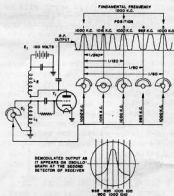

Figure 2.5 - Frequency Modulation
A. An illustration of the generation of frequency modulation is shown in Figure 2.5. The main characteristic of a frequency modulated signal is that the frequency is constantly changing while the output voltage remains constant. Starting at the fundamental frequency, the frequency gradually increases to its maximum, decreases through the fundamental to its minimum and then returns to the fundamental frequency, completing the cycle. The maximum and minimum frequencies are determined by the bandwidth of the f-m oscillator. In the illustrated case, the bandwidth is 15 kc either side of the fundamental 1000 kc. In the Universal Crystal Controlled Signal Generators the bandwidth may be either 0-30 kc, 0-150 kc or 0-450 kc. The rate at which the cycle is completed may also be variable. In these models the rate is either 60 or 400 cycles.
citor of the circuit given in Figure 2.5. The control of the band width of frequency modulation is the potentiometer R26. In the case of the narrow band f-m oscillator (1 mc), the sweep may be varied from 0-30 kc, utilizing 60 cycle modulating frequency. When using the wide band f-m oscillator (50 mc) the sweep may be varied from 0-450 kc utilizing 60 cycle modulation or 0-150 kc utilizing 400 cycle modulation. The oscillator can also be externally modulated. The remaining section of the 6SN7, V3 is used as a mixer stage to heterodyne either the 1 mc or 50 mc frequency modulated signal with the signal from the main variable oscillator, V1, 6C4, thereby resulting in a variable frequency modulated output covering a range between 100 kc to 160 mc.